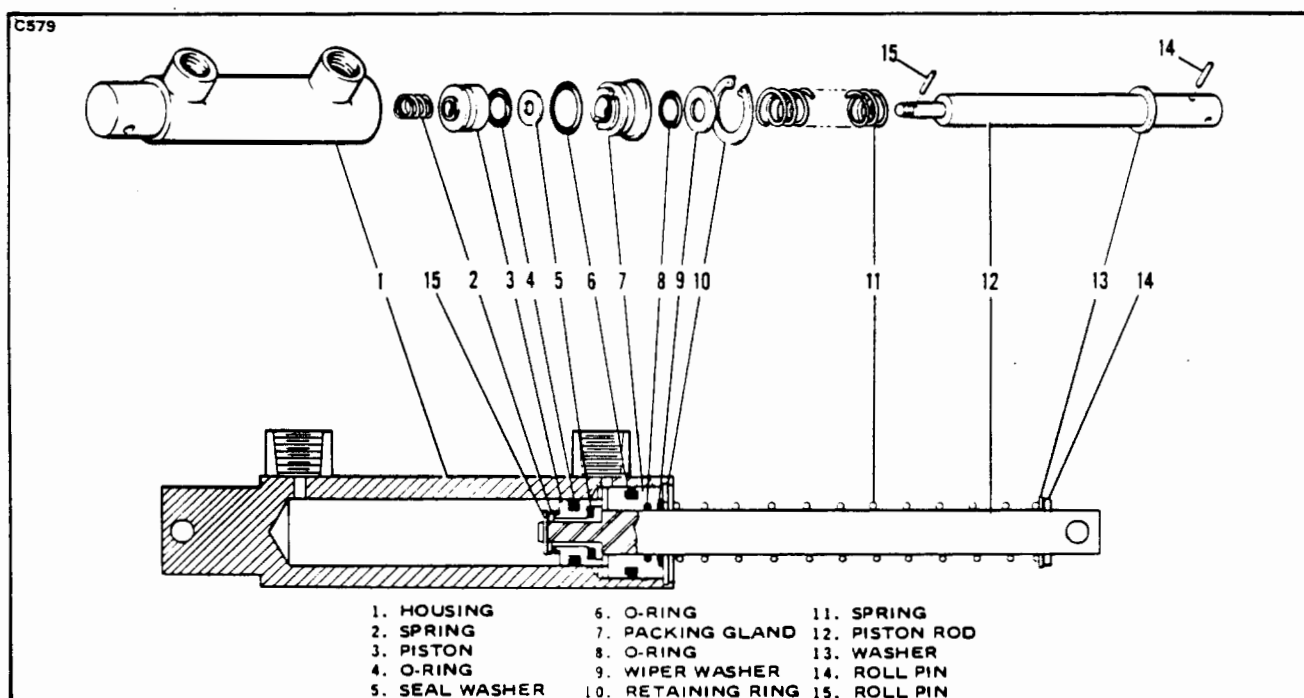

Figure 32-20. Brake Cylinder (10-27)
2. Cleveland cylinder number 10-27. (Refer to Figure 32-20.)